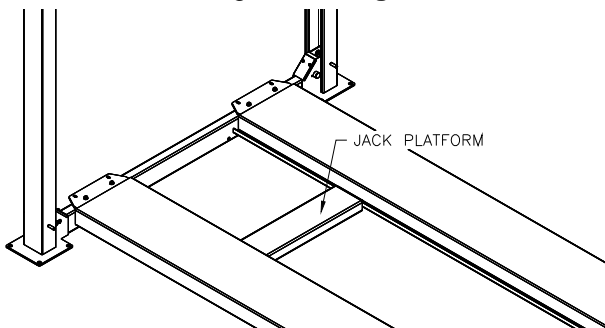

Fig 21 – Jack Platform
- 1) The Jack Platform rest on the jack rails between the runways. It can be positioned as needed along the rail, **Fig 21**.